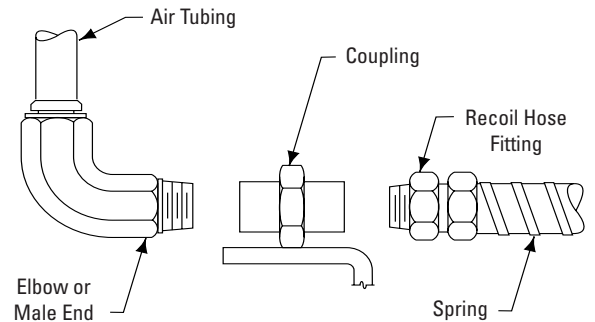
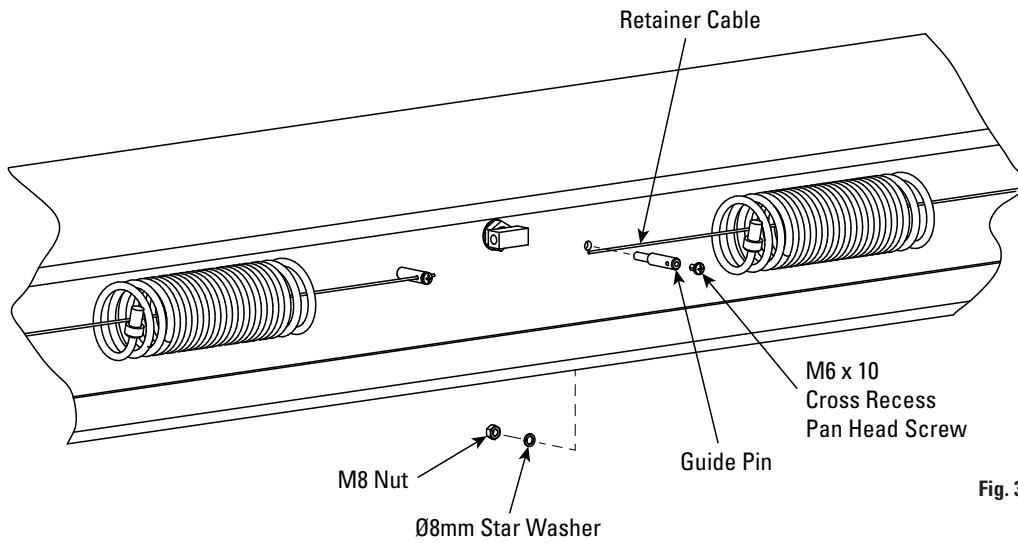
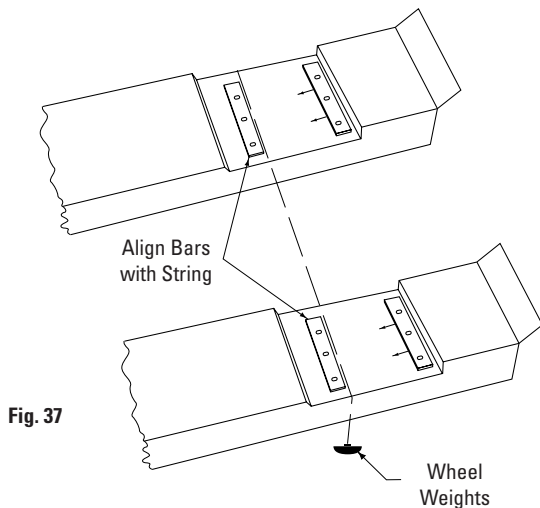

Fig. 34
Fig. 36
Fig. 37
- A. Attach retainer brackets for the rear recoil hose with M8 star washer, lock washer and nut, Fig. 36.
- B. Insert retainer cable through coils of recoil hose, Fig. 37. Insert each end of cable into retainer brackets. Secure each cable end with a M6-10 cross recess pan head screw, Fig. 36.
- A. Assemble retainer cable following instructions in section 24. Insert retainer cable through coils of recoil hose, Fig. 36. Connect one end of recoil hose to coupling welded on rolling jack, Fig. 34 and 35.
- C. Connect elbow end of rolling jack tubing assembly to air pump, and male end to the coupling, Fig. 34 and 35.
- B. Place a weighted string, Fig. 37, across the runways so that the string is touching along the full length of both rear guide bars. If the string is not touching, tap the ends of the guide bars lightly until the guide bars make full contact against the string. Tighten the rear guide bar mounting bolts securely and remove the string.